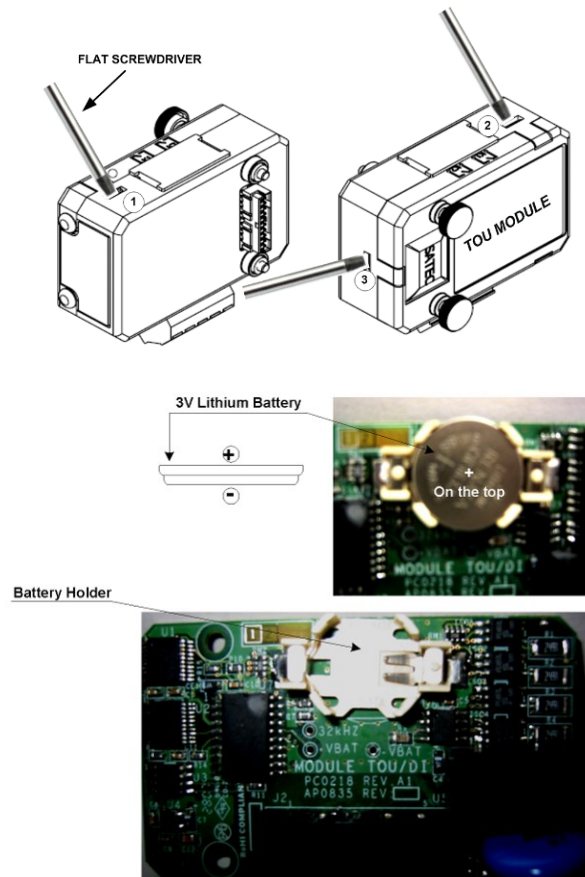

Figure 2-29 TOU RTC Battery Replacement
2. Open the TOU MODULE case by applying a flat screwdriver at three snap-in slit (1, 2 and 3), as shown in Figure 2-29.
4. Place the new CR1632 battery into the battery holder while holding up the battery holder retractable tab in such a way that the (+) battery pole is toward the battery holder, as shown in Figure 2-29.